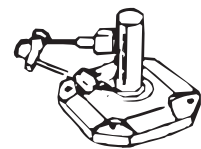

Figure 4
- F. For best performance, seat the seal square with shaft within .005" at 180°. Check with dial indicator as shown in Figure 4, Page 3, or with a straight edge and feelers, or square and feelers. To straighten a cocked seal, place tubing over the seal and tap the tube lightly at a point diametrically opposite the low point on the seal. Do Not strike seal directly.